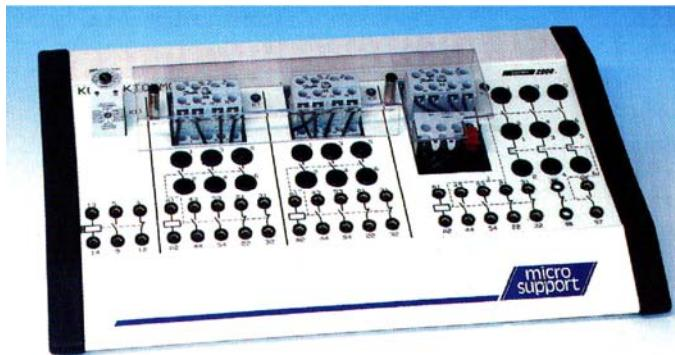

Fig.3.1 Contactor Q3 with overload protection
- Look for the contactor with the overload protection. It is marked **Q3** at the top right of the contactor module. See figure 3.1